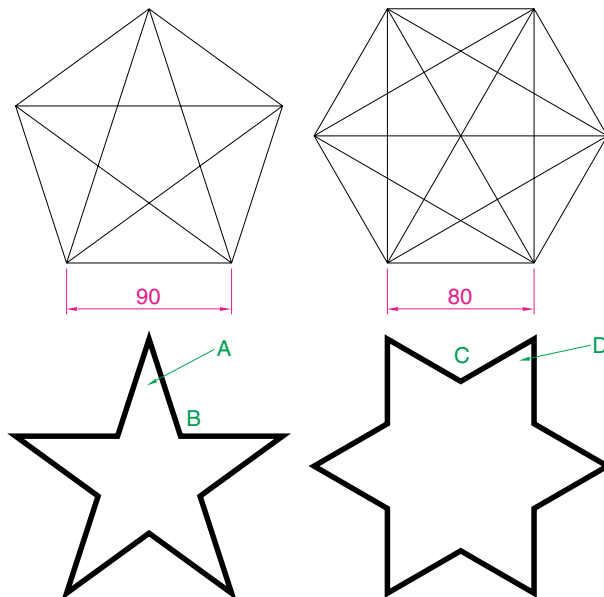

Fig. 6.44 Exercise 3
3. Construct two polygons as in Fig. 6.44 and add all diagonals. Set osnaps **endpoint** and **intersection** and using the lines as in Fig. 6.44